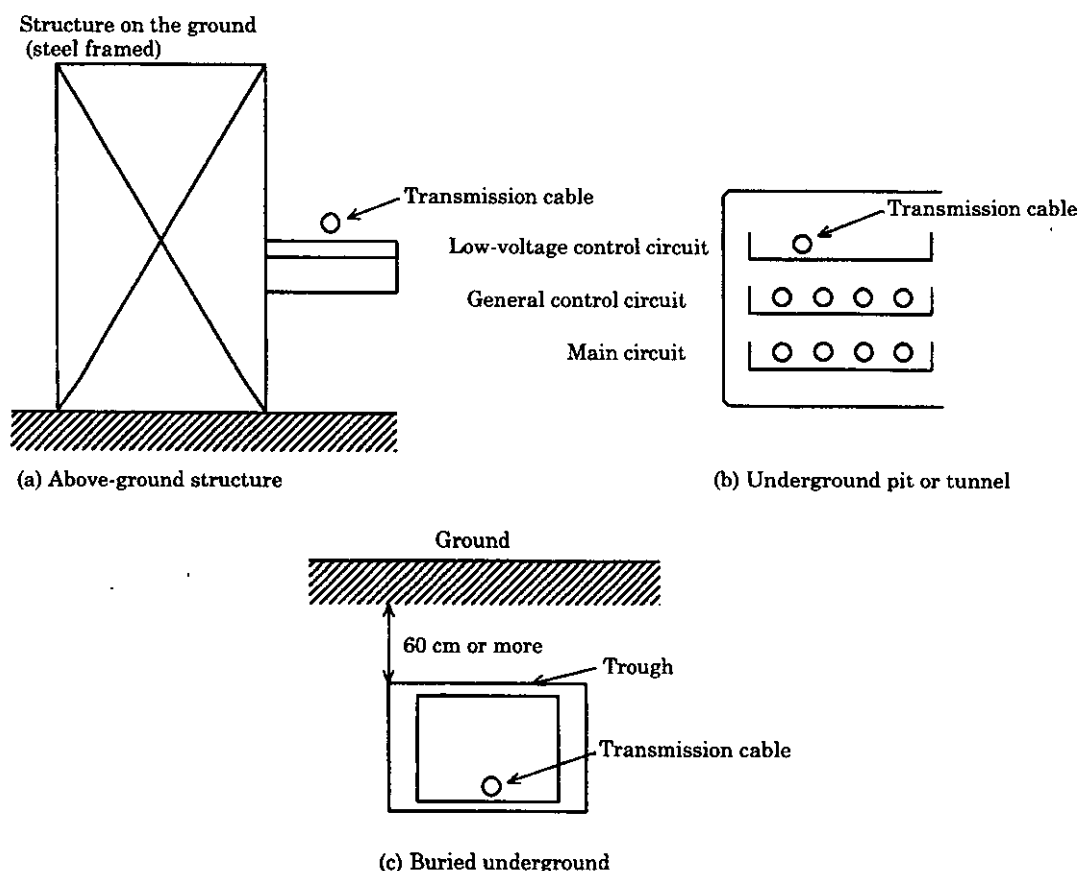

Fig. A.25 Examples of Laying Cables Between Buildings
- When wiring the transmission cables outdoors, lay the cables parallel to an above-ground structure (steel frame). (Refer to Fig. A.25 (a).)
If there is no above-ground structures, enclose the cables in an underground pit or tunnel, or bury them underground. (Refer to Fig. A.25 (b) and (c).)